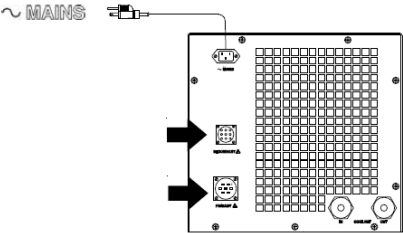

Figure 9: Air/Water Heat Exchanger Power Connections
Make certain the power switch on the TE-BBR is in the OFF (O) position. Then connect the two large power cables between the air/water heat exchanger and the rear panel of the Control Unit. Refer to Figure 9. The connections are keyed and will only fit one way. Insert the MAINS power cord into the MAINS outlet on the Air/Water Heat Exchanger and plug the other end into a suitable receptacle matching the electrical specifications on the rear of the unit.